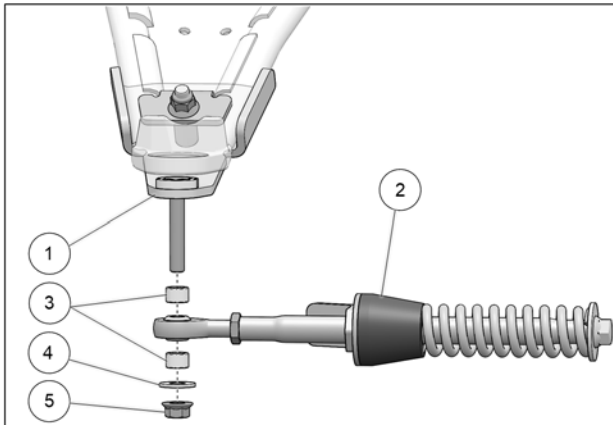

Fig. 22
9. Attach the stabilizing rod (2) to the anchor bracket (1), using the two spacers (3), washer (4), and nut (5). Torque to $70\text{ N}\cdot\text{m}$ [$52\text{ lb}\cdot\text{ft}$]. Refer to Fig. 22